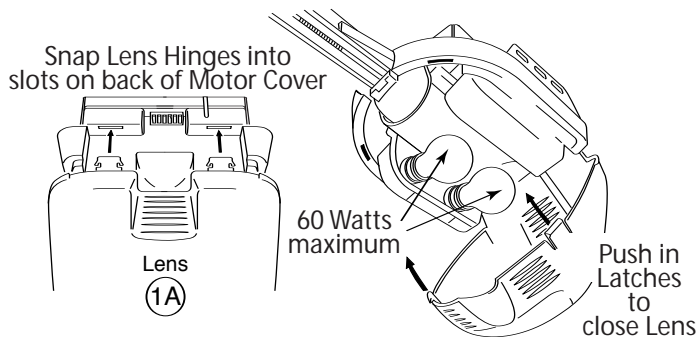

Figure 39 Install Lens Cover and Light Bulbs
- A** Install two 60 Watt light bulbs (not included) into Light Sockets (**Figure 39**):